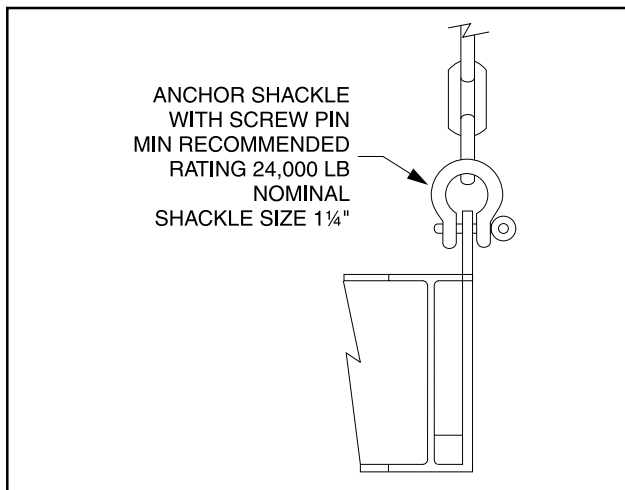

Figure 2
3. This unit shall be lifted using the four lifting lugs welded to the base as shown above. Shackles and screw pins shall be provided (by others) as shown in Figure 2 as minimum.